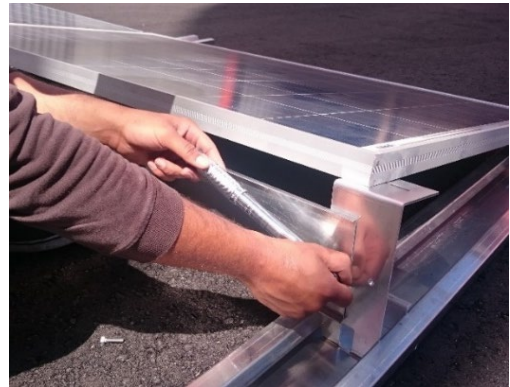
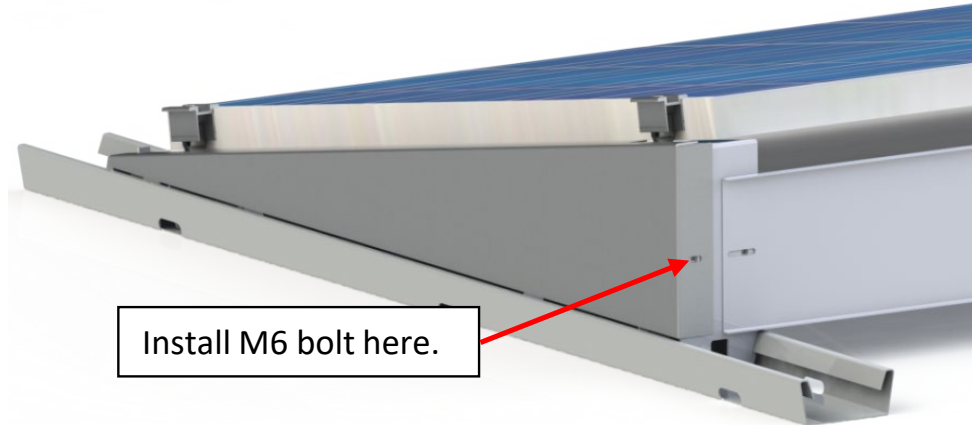

Figure 30 – Torque shield to the Module Top Support
Figure 31 – Side Shield aligned with outer press-fit nut
- 6 Continue installing adjacent PV modules. To ensure proper clamping, pull panels firmly together while installing (see examples, Figure 30 and Figure 31).